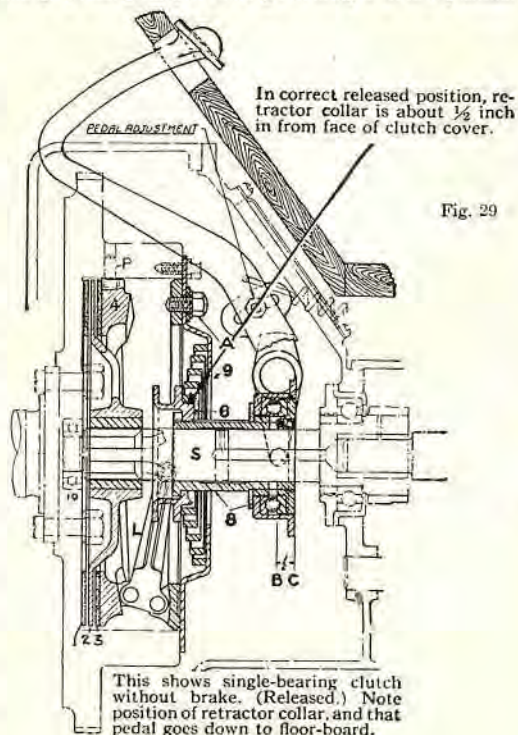

Fig. 29
To adjust single-bearing types, M, D, DN, DA, DU, GA, GA-1 follow instructions given above, except that when pedal is down the rear face of retractor collar (6) should be $\frac{1}{2}$ inch in from face of clutch cover (9), as shown in Fig. 29. If more than $\frac{1}{2}$ inch from face of cover, the pedal adjustment should be changed, raising the pedal enough to bring it to that position.
A indicates a bearing cup required in crowded housings, as in Fig. 29.